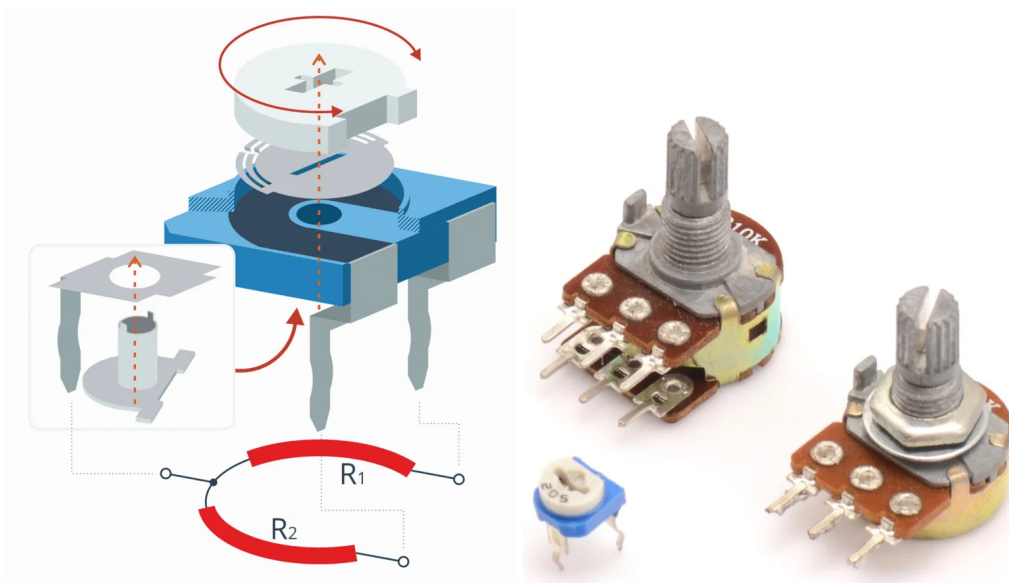

Figure 2.3: Principle of operation of a potentiometer. Source: <https://forbot.pl/blog/leksykon/potencjometr>.
- **Potentiometer** - is a variable resistor that allows you to adjust the resistance between two legs and thus divide the voltage. It consists of three legs, where two legs are connected to the resistance path (see Fig. 2.3) and the third leg to the slider. By adjusting the position of the slider, either with a knob or a screwdriver depending on the type of potentiometer, we divide the resistance path into two resistors connected in series. In this way, if we connect the first leg to 3.3V and the third leg to 0V, we will get a voltage between 0V and 3.3V on the middle leg, depending on the position of the knob.